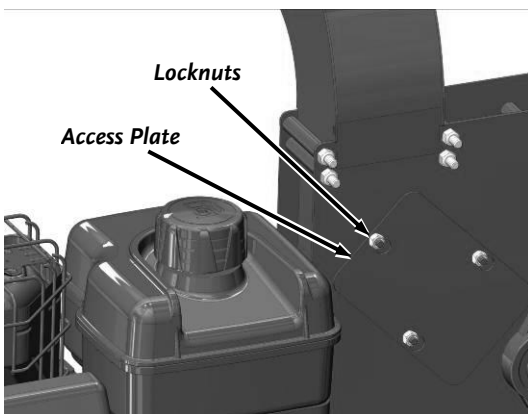

Figure 28
1. Loosen the Locknuts that secure the Access Plate, then slide the Cover over and lift it off the Locknuts (**Figure 28**).